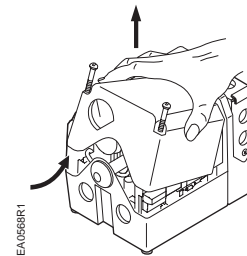

Figure 3.
2. Lift the screws and raise the cover. See Figure 3.